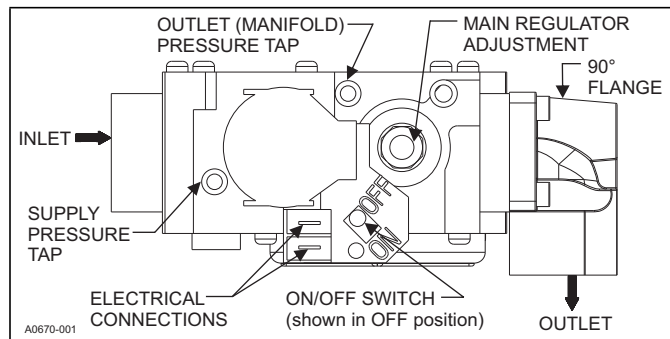

Figure 29: Gas valve
1. See *Figure 29* for location of pressure regulator adjustment cap and adjustment screw on main gas valve.